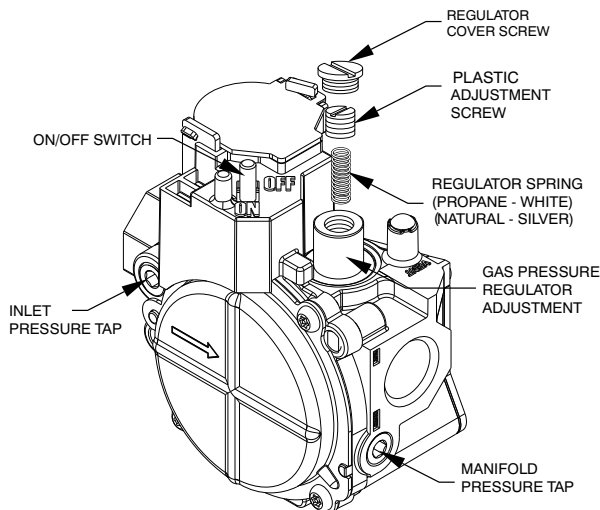
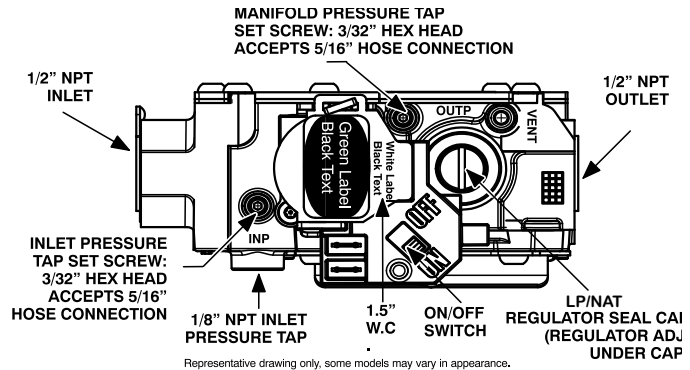

Fig. 16 – Standard Single-Stage Gas Valve
Fig. 17 – Single-Stage Gas Valve with Tower Pressure Ports
- For standard gas valves, remove manifold pressure tap cover using an allen wrench. (See Fig. 16). Install barbed pressure tap and hose to connect to manometer. Turn on gas supply to unit.
- For gas valve with tower pressure ports, loosen set screw on manifold tower pressure tap no more than one full turn with a 3/32-in. hex wrench. (See Fig. 17.) Connect manometer by sliding 5/16" connecting hose over the manifold tower pressure port. Turn on gas supply to unit.
- Remove regulator cover screw over plastic adjustment screw on gas valve (See Fig. 16 and Fig. 17).
- Turn plastic adjustment screw clockwise to increase gas input, or turn plastic adjustment screw counterclockwise to decrease input (See Fig. 16 and Fig. 17). Manifold pressure must be between 3.2 and 3.8 IN. WC.
3. Replace regulator cover screw on gas valve (See Fig. 16 and Fig. 17).
- a. For standard gas valve, remove manometer hose and barbed pressure tap. Replace pressure tap cover using an allen wrench. (See Fig. 16.)
- b. For gas valve with tower pressure port, remove connecting hose. Tighten set screw on manifold pressure port using a 3/32" hex wrench. (See Fig. 17.)